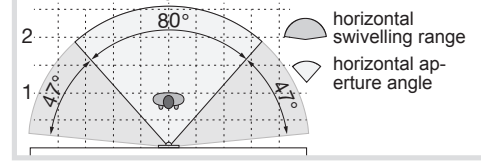

Figure 6: Horizontal camera orientation
- Loosen the locating screw (1) for the camera
- with the 1.5 mm Allen key supplied (9) until the camera can be adjusted easily.
- Adjust camera vertically and horizontally (figures 6 and 7).
- Fix the camera back in place using the screw (1).